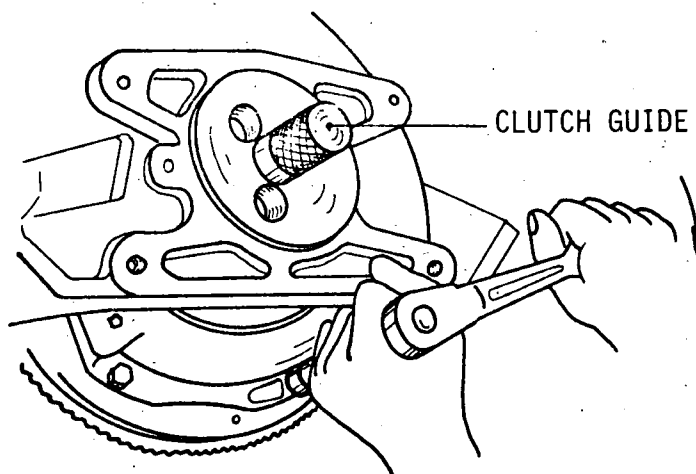

Fig. 1
- b) Line up the holes of the pressure plate cover with those of the flywheel and replace the bolts, tightening them to the specified torque alternately (fig. 1).